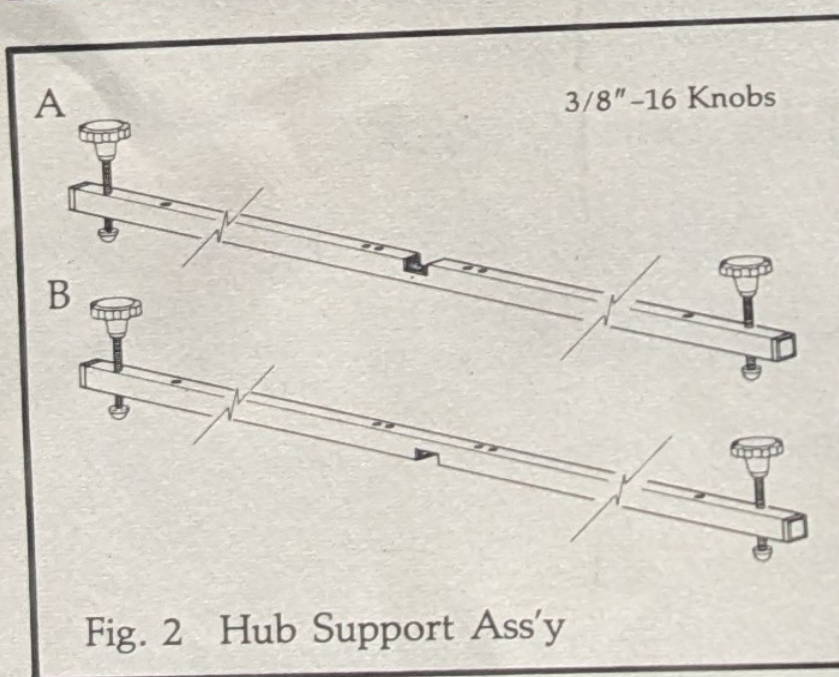

Fig. 2 Hub Support Ass'y
2. Two(2) Hub Support Assemblies (Fig. 2)